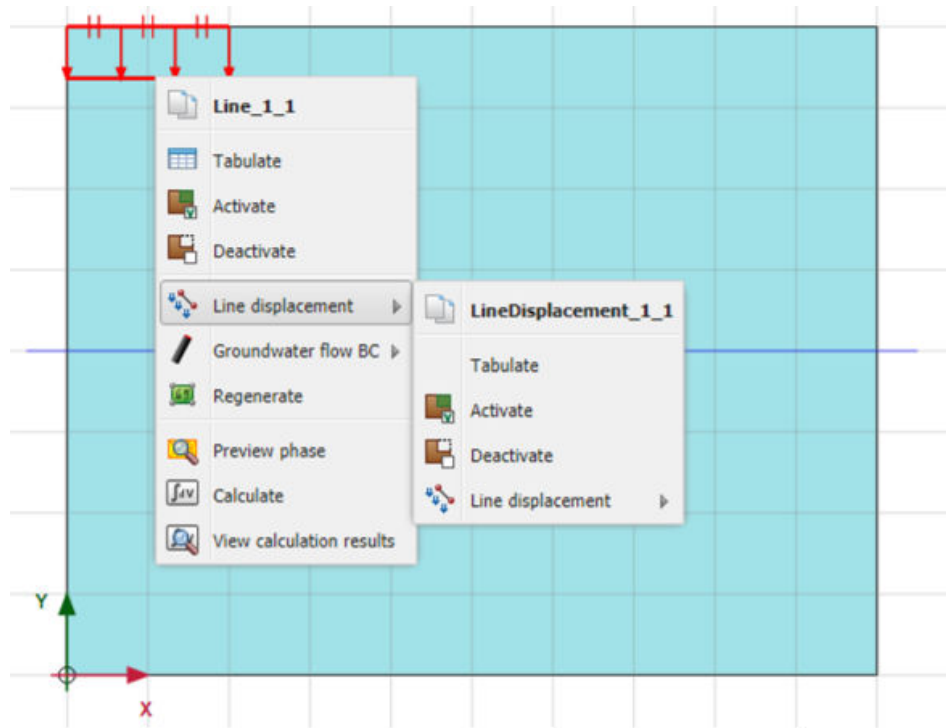

Figure 17: Activation of the prescribed displacement in the **Staged construction** mode
5. Right-click the prescribed displacement in the drawing area and select the **Activate** option in the appearing menu shown in Figure 17 (on page 27).